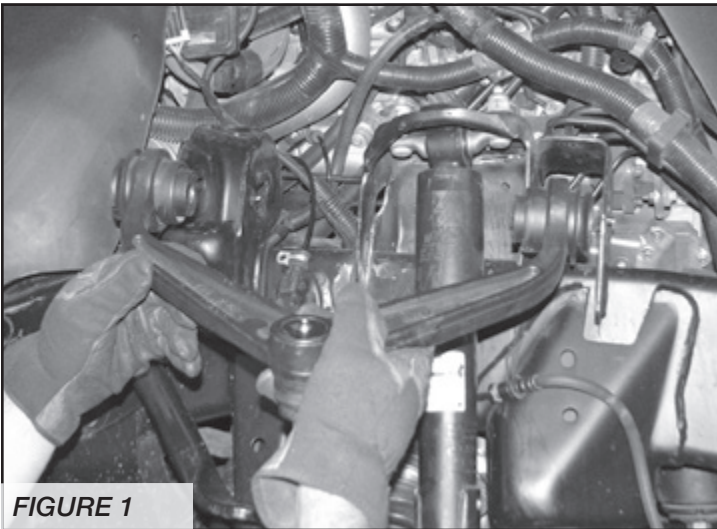

FIGURE 1
4. Mark the location of the alignment cams on the frame of the upper control arm pocket. Remove the upper control arm and retain the factory hardware. **SEE FIGURE 1**